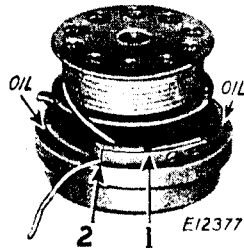
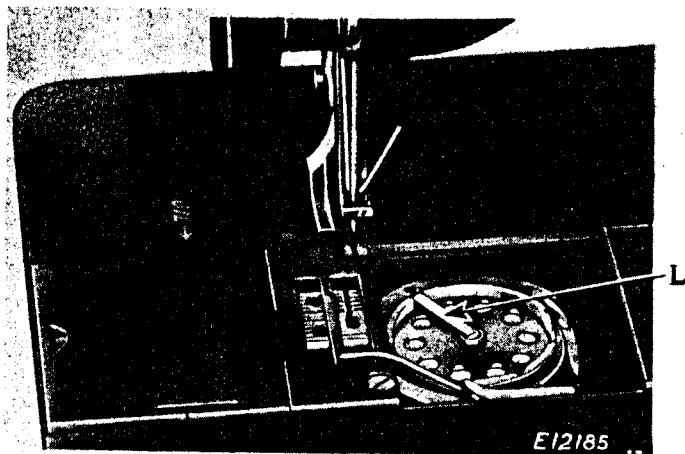

Fig. 9. Direction of Thread on Bobbin
Fig. 10. Bobbin Case Threaded
Apply a few drops of oil four times daily to the two felt pads in the side wall of the bobbin case as illustrated in Fig. 9.
in Fig.9, and place it on the center stud of the bobbin case, then push down the latch (L, Fig.10). Draw the thread into the slot (1, Fig.9) and under the tension spring (2) as shown in Figs.9 and 10, leaving a loose end of thread about two inches long above the slide. When closing the slide plate, leave just enough space for the thread to pass through.